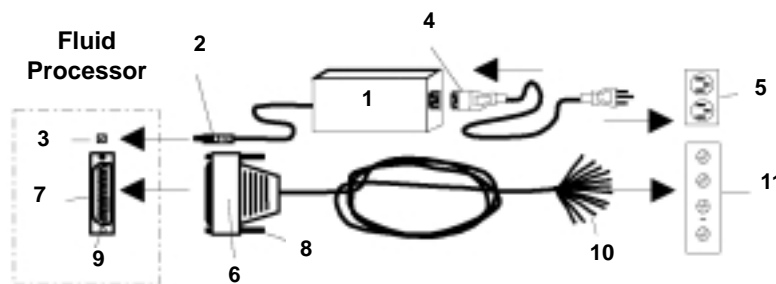

Fig. 5. Electrical and communications connections to Two-Position Fluid Processor and Double Three-Way Diverter.
1. See Figure 5 for an illustration of the electrical connections.
1. All electrical and communications connections to the Two-Position Fluid Processor and Double Three-Way Diverter are made in the rear of the unit (see Figure 5):
- a) Plug the Power Supply (1) male-barrel terminal (2) into the Two-Position Fluid Processor or Double Three-Way Diverter female port (3).
- b) Plug the IEC 320 connector (4) of the Power Line Cord into the Power Supply (1).
- c) Plug the opposite end of the Power Line Cord into a properly grounded power source (5). The LabPRO *Universal Power Supply* can be operated from *inputs* of 100-240 VAC, 50-60 Hz. The *output* is 24VDC, 1.7A.
- (1) *Line control* using the interface cable with *contact closures* or *TTL* relays.
- (2) *Serial communication* using RS-232 or RS-485 cables and software.
- b) For *line control* use the supplied 25-pin *Interface Cable*. The Cable is plugged into the 25-pin terminal on the Two-Position Fluid Processor or Double Three-Way Diverter. The loose wires on the opposite end of the Cable are wired to an appropriate *output* device on your instrument, such as an *External Event Relay* or a *Time Function Switch*. The *output* must be either *contact closure* or *TTL* in order to connect the Two-Position Fluid Processor or Double Three-Way Diverter to your instrument (see **Caution - III A.1**). See Figure 5.
- (1) Plug the *Interface Cable* connector (6) into the 25-pin terminal (7) located on the rear of the Two-Position Fluid Processor or Double Three-Way Diverter. Tighten the connector screws (8) into their mating terminal ports (9).
- (2) Connect the color coded *Interface Cable* wires (10) to the instrument controller *contact closures* or *TTL* relay (11), as described in more detail in the next section “Input Line Control.”
- c) For *serial communication* the *interface cable* is replaced with RS-232 (P/N 5123-067) or RS-485 cable. The serial cable is connected between the 25-pin terminal on the Two-Position Fluid Processor or Double Three-Way Diverter and the appropriate *output* on your computer. See Figure 5.
- (1) Plug the RS-232 or RS-485 *interface cable* connector (6) into the 25-pin terminal (7) located on the rear of the Two-Position Fluid Processor or Double Three-Way Diverter. Tighten the connector screws (8) into their mating terminal ports (9).
- (2) Connect the opposite end of the RS-232 or RS-485 *interface cable* (not shown) into the instrument controller computer port, as described in more detail in the next section.
- (3) The last two digits (-01, -02, -03) of the Two-Position Fluid Processor or Double Three-Way Diverter part number specify the different *inputs* that can be used for *remote control*. See Table 1 for complete details on *inputs* and *outputs* for different Two-Position Fluid Processor or Double Three-Way Diverter part numbers.